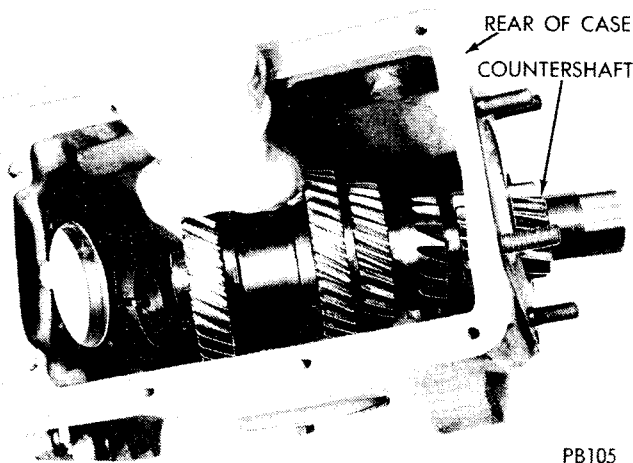

Fig. 9—Removing Countershaft
- (1) Remove countershaft rear bearing retainer.
- (2) Slide countershaft to rear, then up and out of case (Fig. 9).
- (3) Drive countershaft from bearing assembly forward out of transmission case.